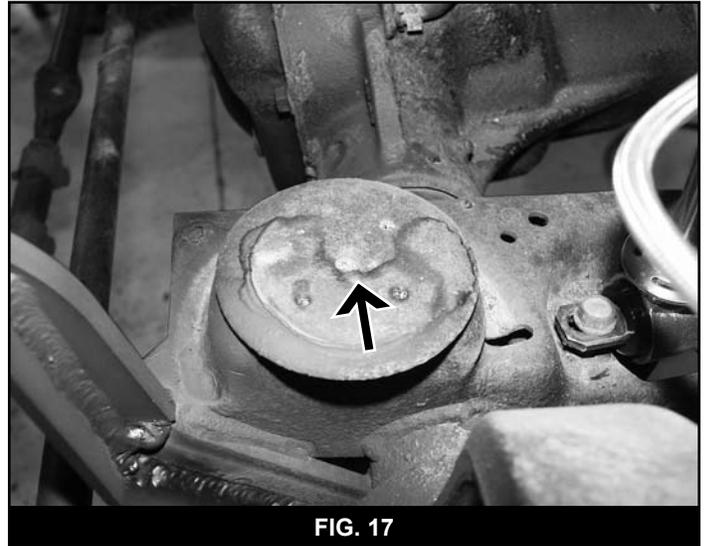

FIG. 17
50. Locate the center of the coil mount on the axle and drill a 5/16" hole (Fig 17). Using one of the provided 3/8" self-tapping bolts, tap the hole and remove the bolt. A lower bump stop extension will be installed here after the coil spring is installed.